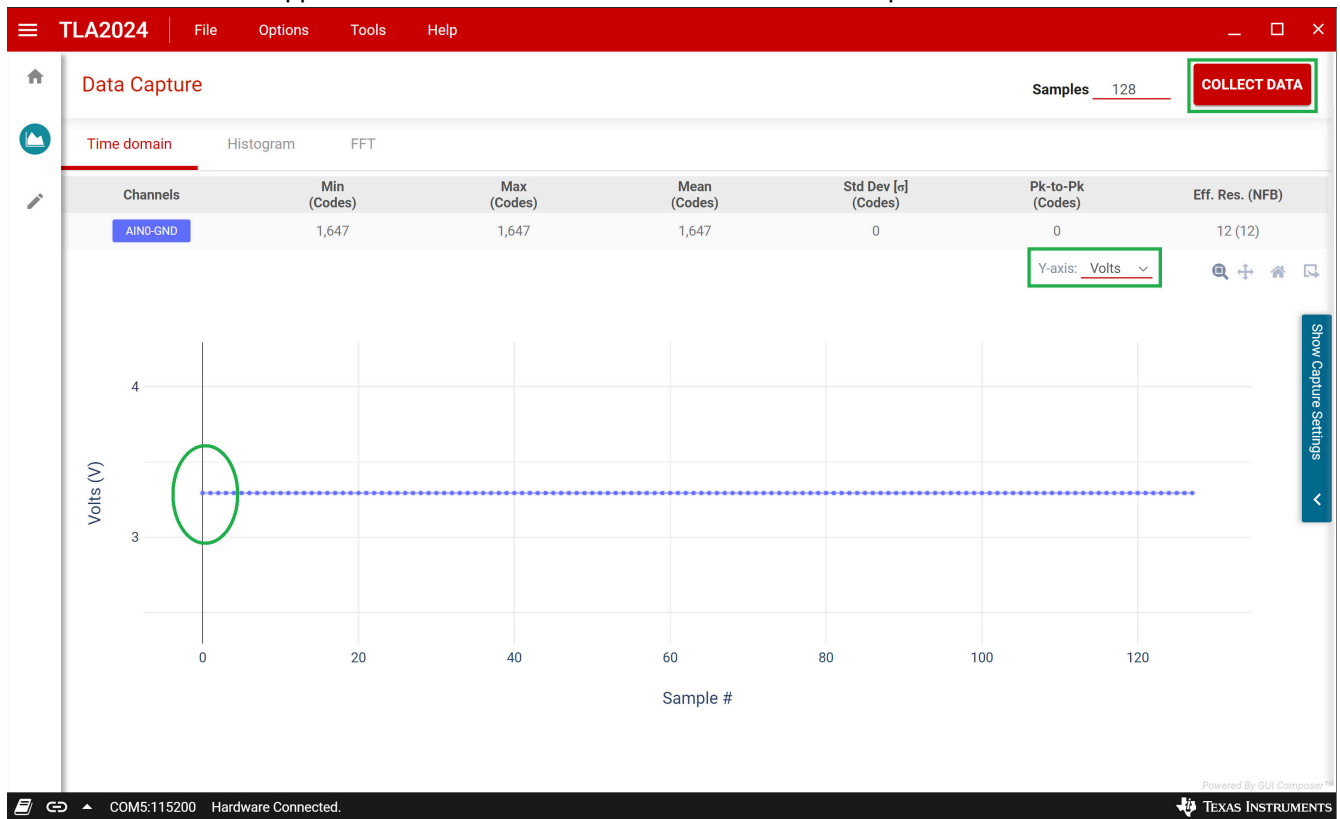

Figure 2-4. Data Capture
4. Choose *Volts* from the chart window for the Y-axis drop-down menu. See Figure 2-4.